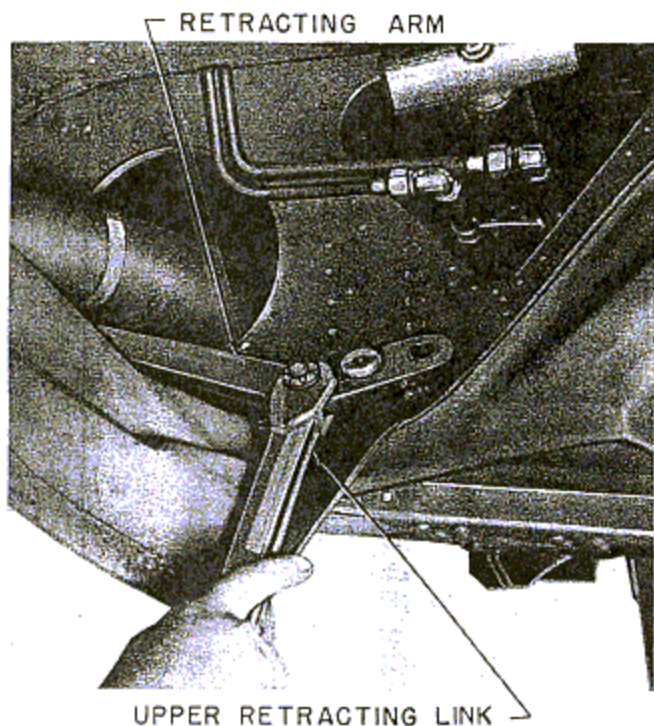

Figure 120—Removing Upper Retracting Links and Retracting Arms
16. Remove the upper retracting links and retracting arms from the wing as illustrated in figure 120.
3. Attach the upper retracting links to the retracting arms and insert the assemblies into the wing through the two web lightening holes in the wheel pocket. (See figure 120.)